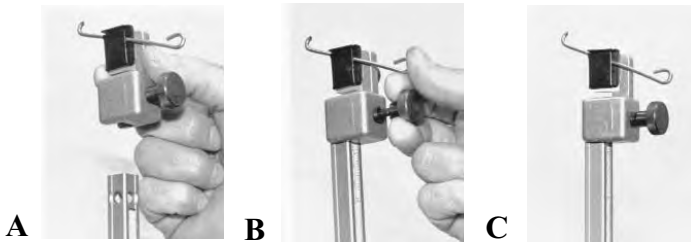

Figure 48
- a) Fasten an attachment to the end of each scale. The attachment's spring loaded plunger fits in a hole in the end of the scale. (See Figure 48 A, B and C.)